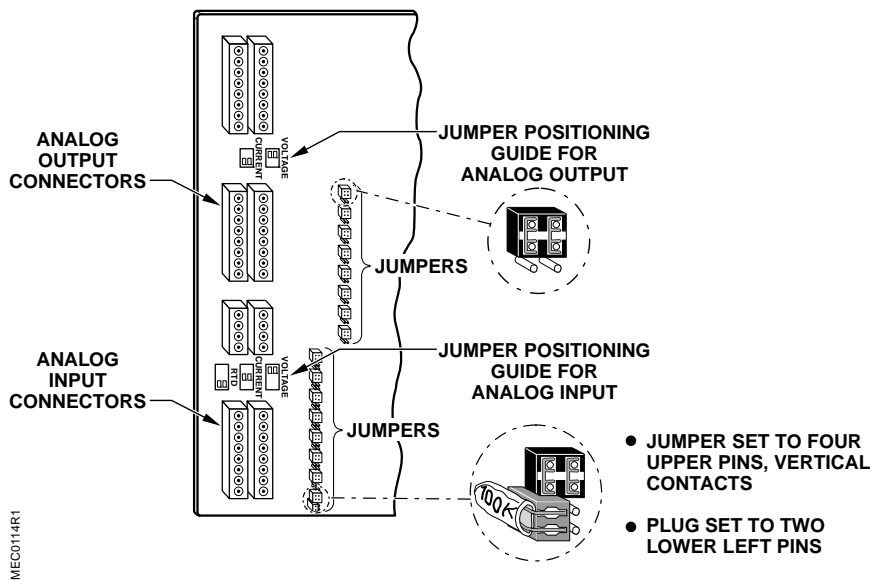

Figure 3. MEC Jumper Locations (Shown with 100K Thermistor Option).
2. Set the jumpers on the termination board to the desired physical point type for the analog input (AI) and analog output (AO) points. See Figure 3 for the jumper positions.
3. If required, install the MEC 100K Thermistor jumper on the lower left pins of each analog input point that is monitoring a 100K thermistor. See Figure 3 for the jumper positions.